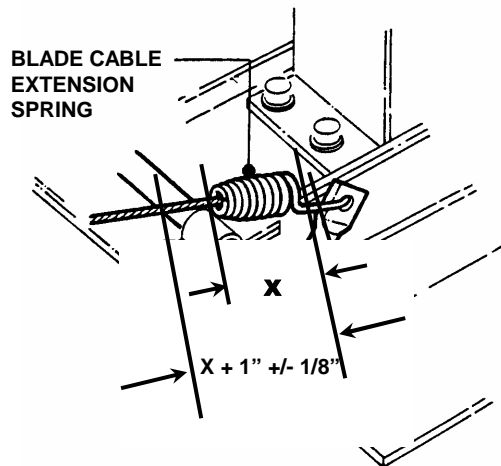

FIGURE 4.3
7. Measure blade cable extension spring. Spring should extend 1" +/- 1/8" for proper belt tension. See Figure 4.3
10. Measure extension spring with blade engagement lever in the "ON" and "OFF" positions. See Figure 4.3. Continue adjustment until tension is correct.